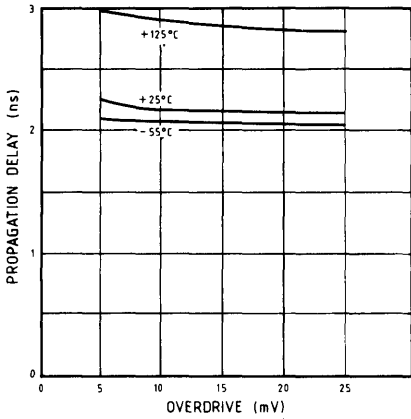

Fig.6 Propagation delay, input to output as a function of overdrive
3. +100mV pulse with -100mV overdrive see Figs. 6 to 8.